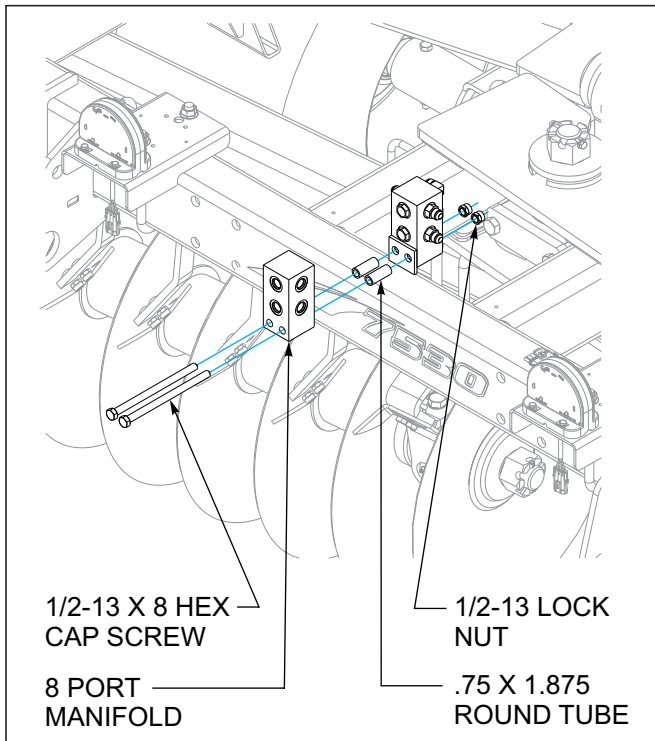

Figure 3-48: 8 Port Manifold Installation
6. Install the 8 port manifold (See Figure 3-48.) to the manifold bracket on the rear of frame by removing the 1/2-13 x 3-1/2 hex cap screws. Attach the .75 x 1.875 round tubes, 8 port manifold, secure with 1/2-13 x 8 hex head cap screws and 1/2-13 lock nuts as shown.